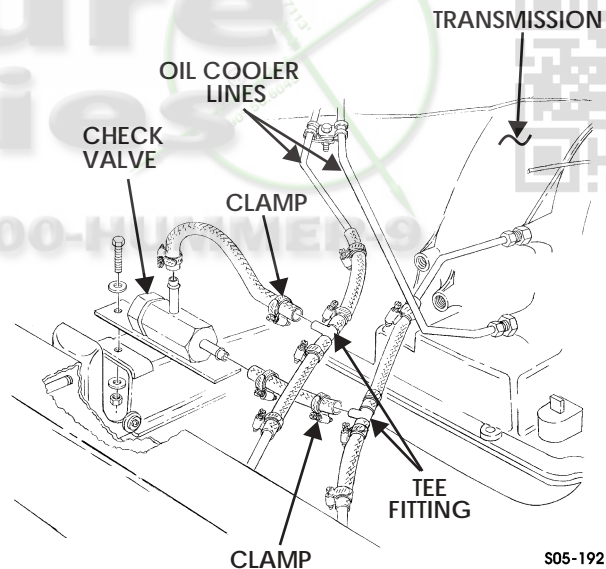

Figure 5-78: Check Valve And Transmission Oil Cooler Lines
4. Disconnect oil cooler lines from fittings on transmission (Figure 5-78).
5. Loosen clamps and disconnect tee fittings in oil cooler lines from hoses to check valve (Figure 5-78).
2. Connect oil cooler lines to transmission fittings, and secure rubber hoses on oil cooler fittings and transfer case fittings with clamps. Tighten clamps to 35-45 lb-in. (4-5 N•m) (Figures 5-78 and 5-81).